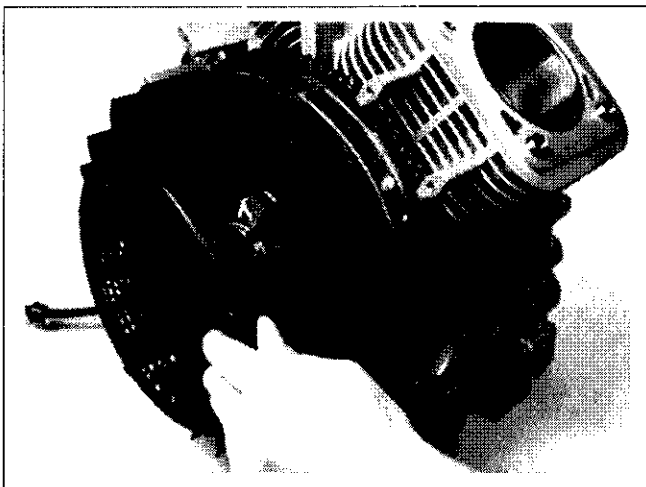

Figure 9-52. Removing Plastic Type Grass Screen.
1. Remove the plastic type grass screen by carefully unsnapping it from the retaining knobs on the flywheel fan. See Figure 9-52.